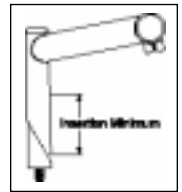

Fig.1
4. On threaded steerers, insert stem to a minimum depth according to CPSC and JIS standards. The stem must be inserted to a minimum engaging length not less than 2.5 times the stem diameter from the lowest end of the stem, not the wedge (see Fig. 1).